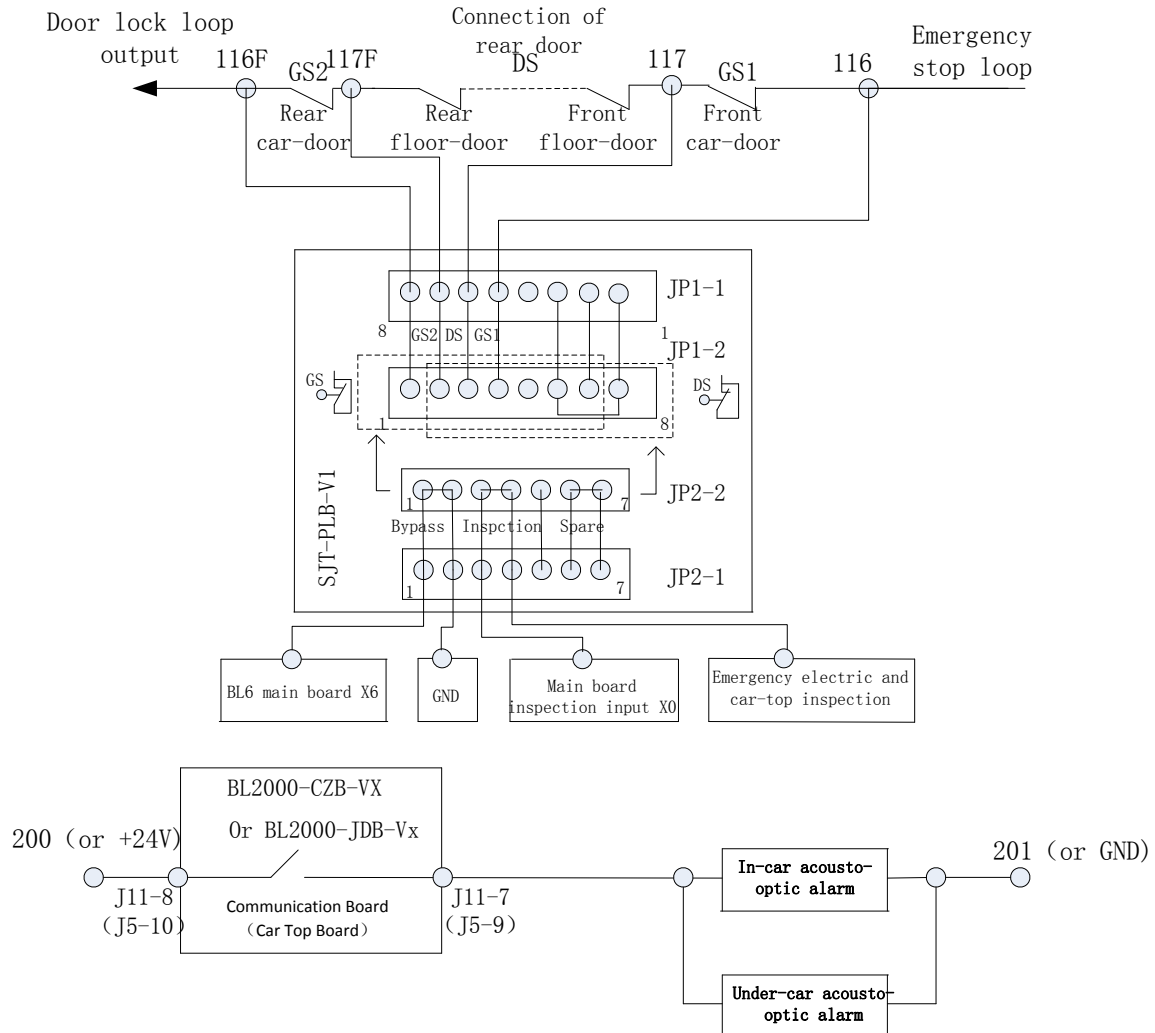
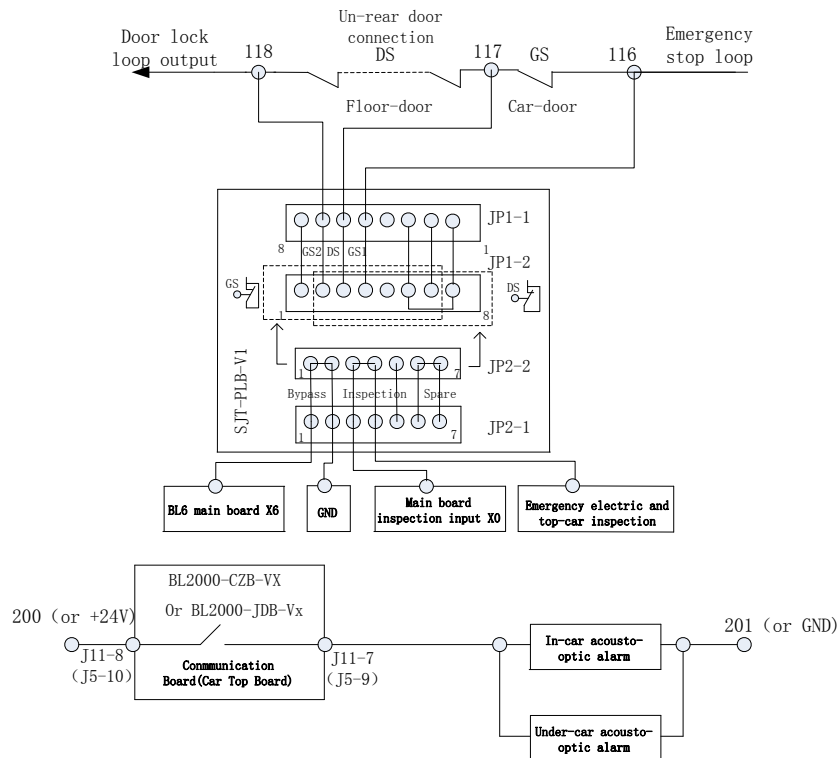

Figure F12.6 BL6-U series elevator integrated controller rear door bypass plan
Figure F12.7 BL6-U series elevator integrated controller un-rear door bypass plan
- 1、 Using an SJT-PLB-V1 dedicated bypass circuit board, such as figure F12.6 and figure F12.7, to use a 7 pin JP2-2 and a 8 pin JP1-2 plug-in with a 7 pin plug (out of factory) to achieve bypass operation.